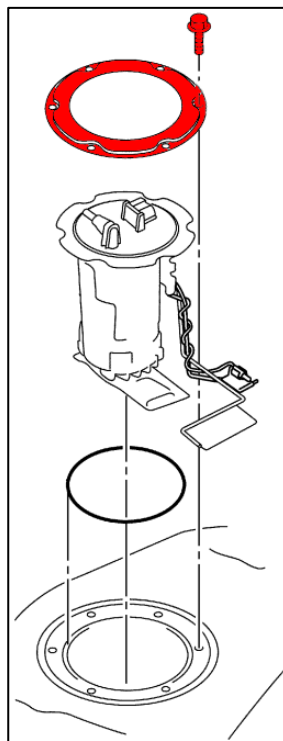

Figure 5
11. Remove the (6) six bolts securing the Fuel Pump Retainer to the Fuel Tank and remove the Retainer. *Figure 5.*